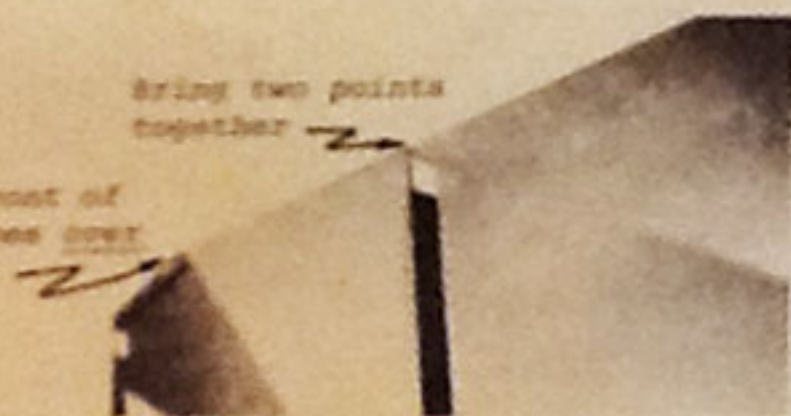

Figure 18
8. Run a bead of glue along the long top edge of the left gable roof (700-24). Put the right gable roof (700-24) in place. See figure 18 to see how the top edges of these two pieces meet. Use tape to hold the two roof pieces together while the glue dries. Let the gable roof rest in place.
9. Note figure 18 again to see how the left and right main roofs (700-22 & -23) fit together. Run a bead of glue down the edge of the left and right wall ends (700-11) and on the front edge of the roof rafters 411-2 and -3. Glue 700-22 and -23 in place. Put glue along the edge of the front attic wall end (700-11) and on the edges of 411-4.